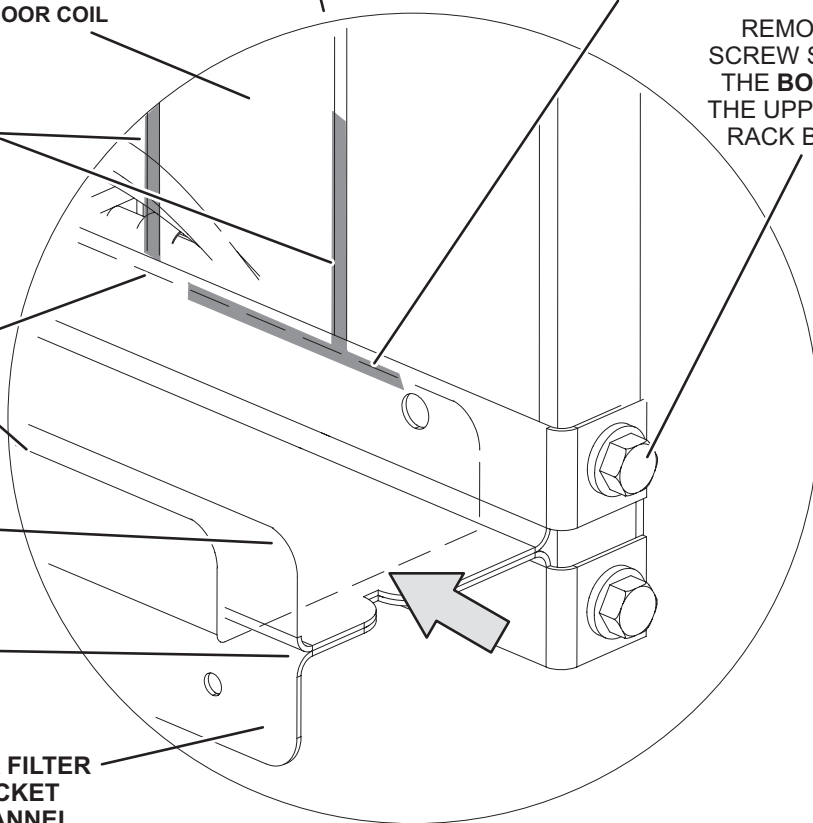

FIGURE 28
The optional, brush-type ionizer produces positive and negative ions to clean air and reduce airborne contaminants. The ionizer was designed to be low maintenance. The device should be checked semi-annually to confirm the brushes are clean for maximum output. The ionizer is located behind the filters. See FIGURE 28.
- 1 - Remove filters, screws securing the top and bottom of the upper filter bracket, and the wire ties the screws hold in place. See FIGURE 28.